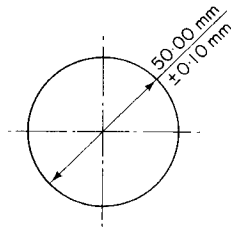

Fig. 4.12 The nominal size is 50.00 mm
**Nominal size.** The hole shown in Fig. 4.12 has a nominal diameter of 50.00 mm. According to the drawing the